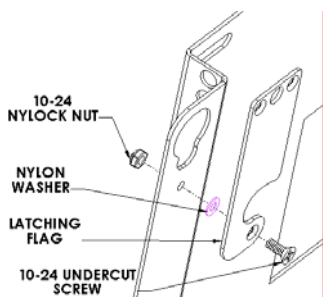

Figure 2
1. Attach latching flags to mount using two 10-24 undercut screws, Nylon washers, and Nylock nuts (see Figure 2). Tighten until friction will hold the flag in place.